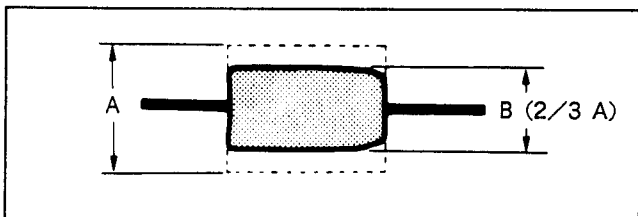

Fig. 7-81.
- 4) Set the SEL switch of the track shift jig to ON, then turn the track shift knob until the RF waveform amplitude becomes  $2/3$ . (See Fig. 7-81.)